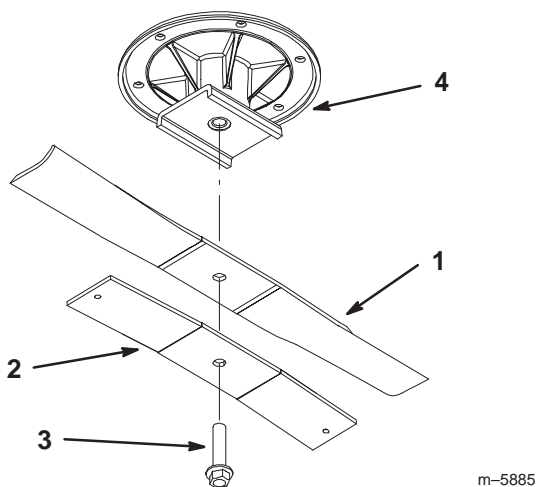

Figure 16
1. Install the blade onto the spindle shaft (Fig. 16).
2. Install the blade stiffener onto the spindle shaft (Fig. 16). The stiffener must match the contour and be flush with the blade.
3. Install the blade bolt (Fig. 16). **Torque the blade bolt to 85–110 ft-lb (115–150 N•m).**